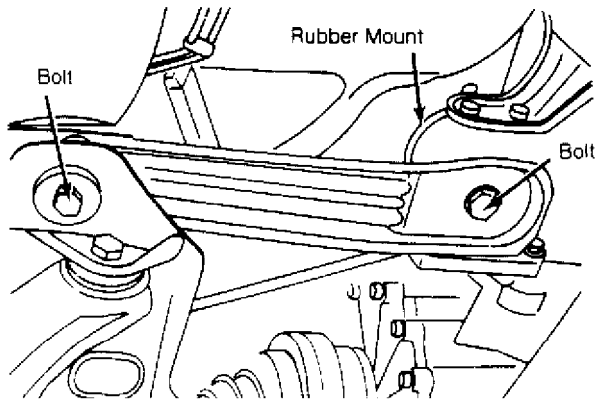

Fig. 2: Transaxle Support Assembly
3) Position transmission lift under transaxle and lift up slightly. Loosen bolt "A" and remove bolt "B" from rear transaxle mount. Remove rubber mount. See Fig. 2. Remove 3 front transaxle support bolts. Remove lower engine-to-transaxle bolts.